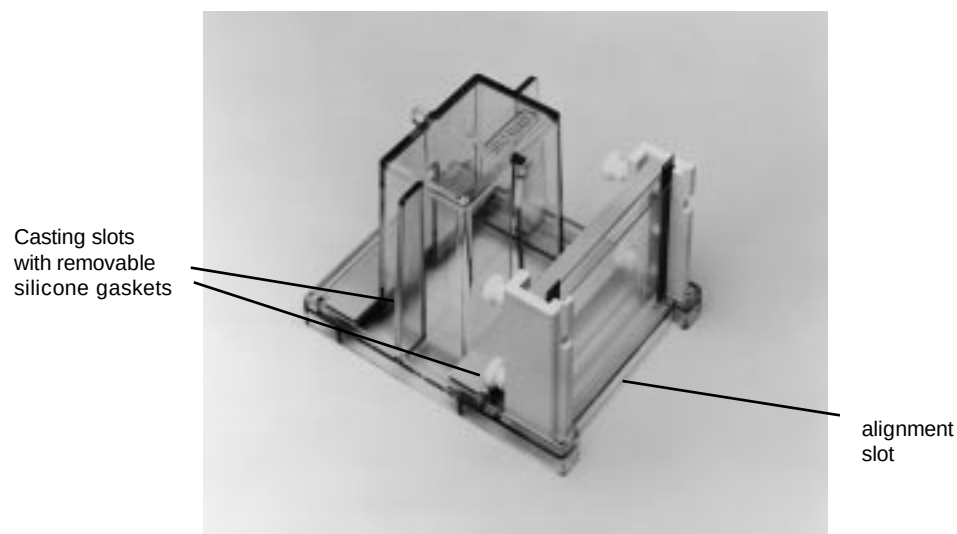
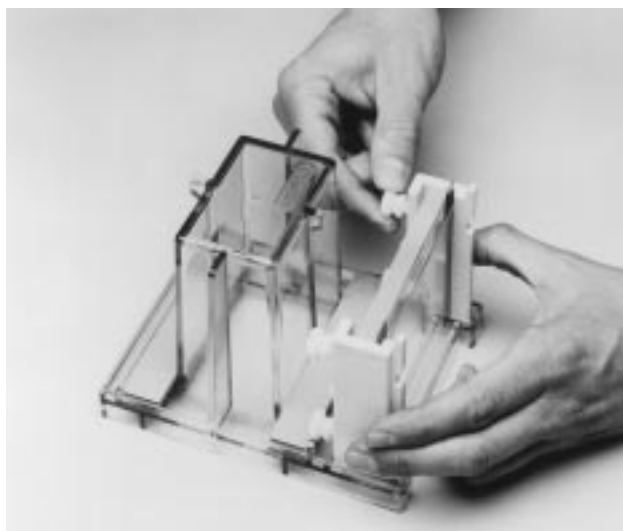

Fig. 3.3
Fig. 3.4
3. Place the clamp assembly into the alignment slot so that the clamp screws face away from you (Figure 3.3). Loosen the top two screws to allow the plates and spacers to settle against the casting stand base. Insert the Mini-PROTEAN II alignment card between the glass plates, in order to position the spacers properly. Gently tighten both pairs of screws (Figure 3.4).